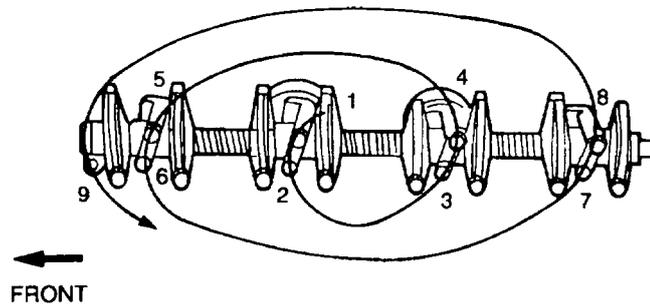

Figure 22 Rocker Shaft Assembly Tightening Sequence
- q. Install the nuts, bolts and washers and torque them to 20 to 30 N.m (15 to 22 lbf.ft) in the sequence shown in Figure 22.